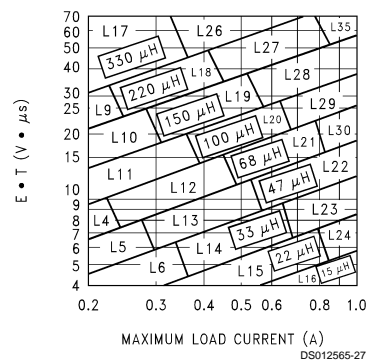

FIGURE 7. LM2595-ADJ
<p>2. Inductor Selection (L1)</p> <p>A. Calculate the inductor Volt • microsecond constant E • T (V • μs), from the following formula:</p> $E \cdot T = (V_{IN} - V_{OUT} - V_{SAT}) \cdot \frac{V_{OUT} + V_D}{V_{IN} - V_{SAT} + V_D} \cdot \frac{1000}{150 \text{ kHz}} (V \cdot \mu\text{s})$ <p>where V_{SAT} = internal switch saturation voltage = 1V and V_D = diode forward voltage drop = 0.5V</p> <p>B. Use the E • T value from the previous formula and match it with the E • T number on the vertical axis of the Inductor Value Selection Guide shown in Figure 7.</p> <p>C. on the horizontal axis, select the maximum load current.</p> <p>D. Identify the inductance region intersected by the E • T value and the Maximum Load Current value. Each region is identified by an inductance value and an inductor code (LXX).</p> <p>E. Select an appropriate inductor from the four manufacturer's part numbers listed in Figure 8.</p> <p>3. Output Capacitor Selection (C_{OUT})</p> <p>A. In the majority of applications, low ESR electrolytic or solid tantalum capacitors between 47 μF and 330 μF provide the best results. This capacitor should be located close to the IC using short capacitor leads and short copper traces. Do not use capacitors larger than 330 μF. For additional information, see section on output capacitors in application information section.</p> <p>B. To simplify the capacitor selection procedure, refer to the quick design table shown in Figure 3. This table contains different output voltages, and lists various output capacitors that will provide the best design solutions.</p> <p>C. The capacitor voltage rating should be at least 1.5 times greater than the output voltage, and often much higher voltage ratings are needed to satisfy the low ESR requirements needed for low output ripple voltage.</p> <p>4. Feedforward Capacitor (C_{FF}) (See Figure 1)</p> <p>For output voltages greater than approximately 10V, an additional capacitor is required. The compensation capacitor is typically between 50 pF and 10 nF, and is wired in parallel with the output voltage setting resistor, R₂. It provides additional stability for high output voltages, low input-output voltages, and/or very low ESR output capacitors, such as solid tantalum capacitors.</p> $C_{FF} = \frac{1}{31 \times 10^3 \times R_2}$ <p>This capacitor type can be ceramic, plastic, silver mica, etc. (Because of the unstable characteristics of ceramic capacitors made with Z5U material, they are not recommended.)</p>	<p>2. Inductor Selection (L1)</p> <p>A. Calculate the inductor Volt • microsecond constant (E • T),</p> $E \cdot T = (28 - 20 - 1) \cdot \frac{20 + 0.5}{28 - 1 + 0.5} \cdot \frac{1000}{150} (V \cdot \mu\text{s})$ $E \cdot T = (7) \cdot \frac{20.5}{27.5} \cdot 6.67 (V \cdot \mu\text{s}) = 34.8 (V \cdot \mu\text{s})$ <p>B. E • T = 34.8 (V • μs)</p> <p>C. I_{LOAD(max)} = 1A</p> <p>D. From the inductor value selection guide shown in Figure 7, the inductance region intersected by the 35 (V • μs) horizontal line and the 1A vertical line is 100 μH, and the inductor code is L29.</p> <p>E. From the table in Figure 8, locate line L29, and select an inductor part number from the list of manufacturers part numbers.</p> <p>3. Output Capacitor Selection (C_{OUT})</p> <p>A. See section on C_{OUT} in Application Information section.</p> <p>B. From the quick design table shown in Figure 3, locate the output voltage column. From that column, locate the output voltage closest to the output voltage in your application. In this example, select the 24V line. Under the output capacitor section, select a capacitor from the list of through hole electrolytic or surface mount tantalum types from four different capacitor manufacturers. It is recommended that both the manufacturers and the manufacturers series that are listed in the table be used.</p> <p>In this example, through hole aluminum electrolytic capacitors from several different manufacturers are available.</p> <p>82 μF, 35V Panasonic HFQ Series 82 μF, 35V Nichicon PL Series</p> <p>C. For a 20V output, a capacitor rating of at least 30V or more is needed. In this example, either a 35V or 50V capacitor would work. A 35V rating was chosen, although a 50V rating could also be used if a lower output ripple voltage is needed.</p> <p>Other manufacturers or other types of capacitors may also be used, provided the capacitor specifications (especially the 100 kHz ESR) closely match the types listed in the table. Refer to the capacitor manufacturers data sheet for this information.</p> <p>4. Feedforward Capacitor (C_{FF})</p> <p>The table shown in Figure 3 contains feed forward capacitor values for various output voltages. In this example, a 1 nF capacitor is needed.</p>